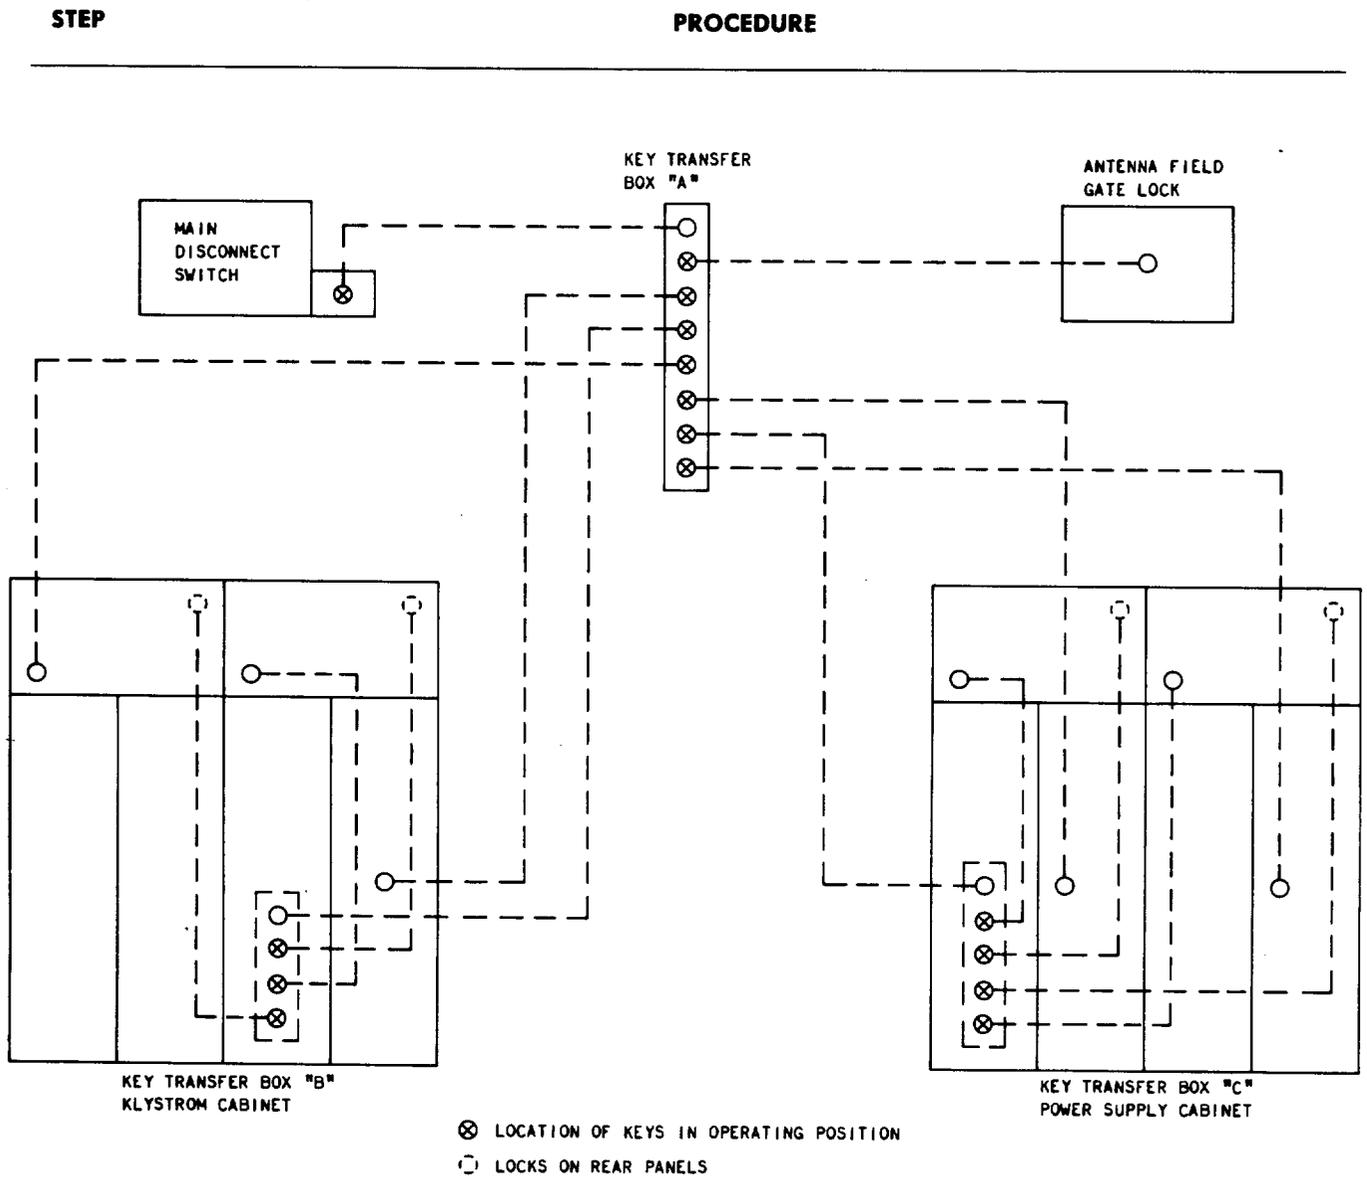

Fig. 1—Key Interlock System
- 1 Complete the amplifier shutdown procedures contained in Section 403-405-300. Gain access to the interior by sequentially operating the key interlock system (Fig. 1).